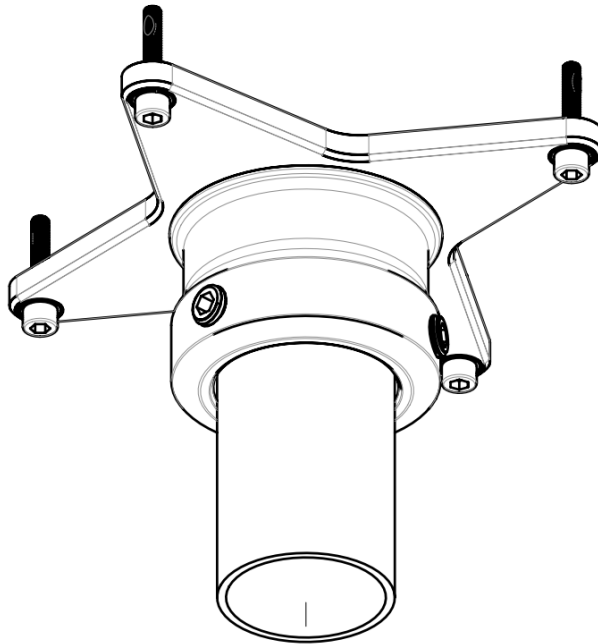
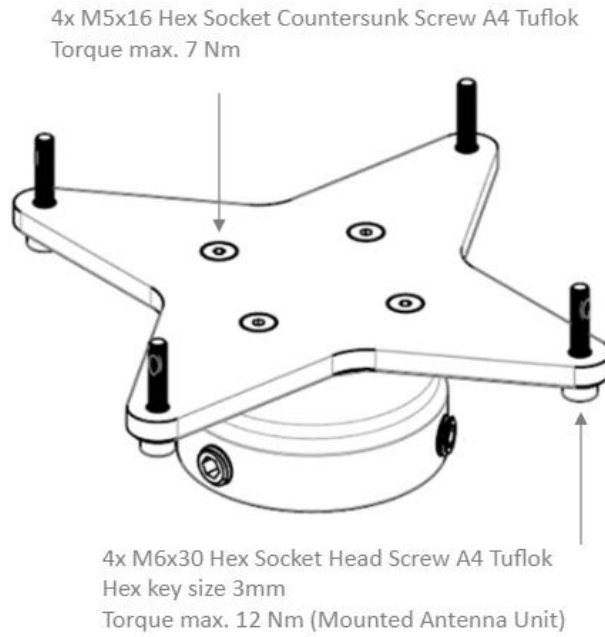

Figure 19: Pole Mount (2.0" pipe), Antenna Unit.
Figure 20: Pole Mount (2.0" pipe), Antenna Unit.
The Pole Mount (2.0" pipe, Ø53.0mm), Antenna Unit is illustrated in Figure 19 to Figure 20.
1. Screw the pole mount onto the LT-4230 Antenna Unit using the Head screws (max torque = 12 Nm) as illustrated on Figure 20
**NOTE:** The Pole Mount (2.0" pipe, 53.0mm), Antenna Unit only supports a 2.0" pipe. The pinot screws (antenna and pole lock) torques are specified in Figure 21 and Figure 20. The pole mount is made of A4 stainless steel. The pinot screws are made of A4 stainless steel.